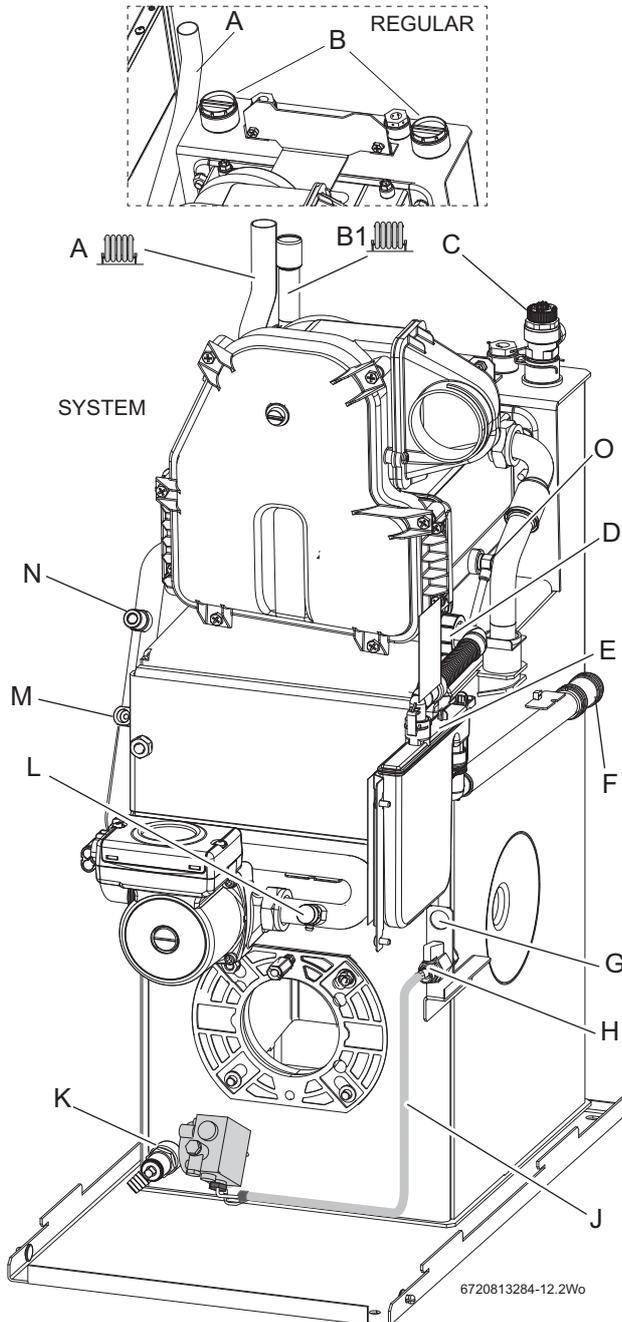

Fig. 41 Pipework connections
- ▶ Refer to figure 41 and ensure that the isolating valve (H) is fully closed and route the oil supply pipe along the right side of the boiler and connect to the isolating valve (H).
2. Connect the flexible oil pipe return hose [3] (not supplied) to the oil pump and return pipe fixing and tighten to secure (for routing see figure 41).
- ▶ Check that the burner is seated correctly on its mounting flange and that the oil hose/s are routed correctly as shown in Fig. 41 and not trapped in front of or underneath the burner.
2. Attach air duct and tighten clip (D) to secure to the burner air intake.